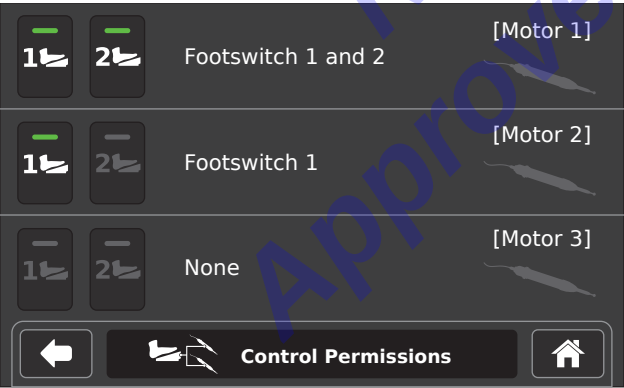

Figure 15 – Control Permissions Screen
2. For each connected motor, set control permissions as necessary (*Figure 15*).